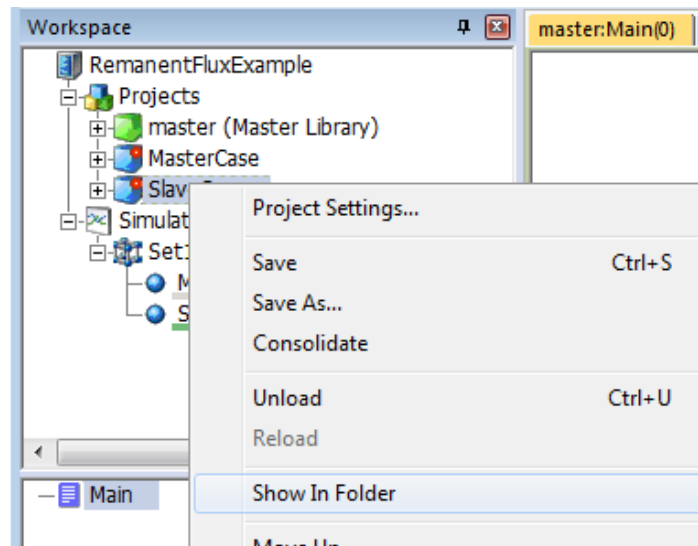

Figure 8: Displaying the project folder
- Right-click on the slave case in the workspace, and from the popup window, select "Show In Folder" (see Figure 8).